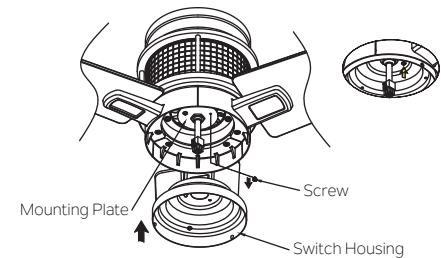

Fig. 15
Step 1. Remove one of the screw preinstalled on mounting plate and keep for later use. Loosen the other two (do not remove). Place the two slot holes on the switch housing over the 2 screws previously loosened from the mounting plate. Rotate the switch housing until it locks in place at the narrow end of the key holes. Securely by tightening the 2 screws previously loosened and the one previously removed. (Fig. 15)